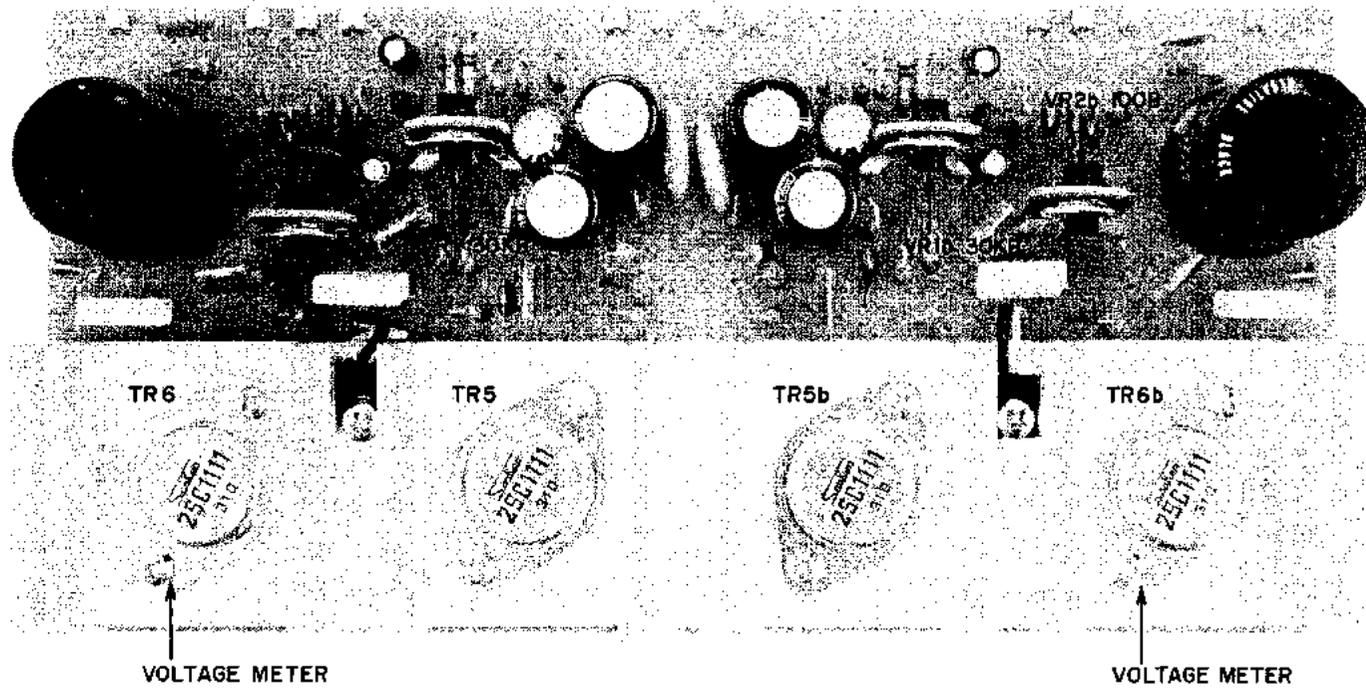

Fig. 27 POWER AMP. P.C. BOARD 92-5005
- 1) As shown in Fig. 27, remove solder from soldering point of Power Amp. P.C. Board.
- 1) Connect ampere meter to collector of P.C. Board Power Transistors TR6, TR6b shown in Fig. 27.